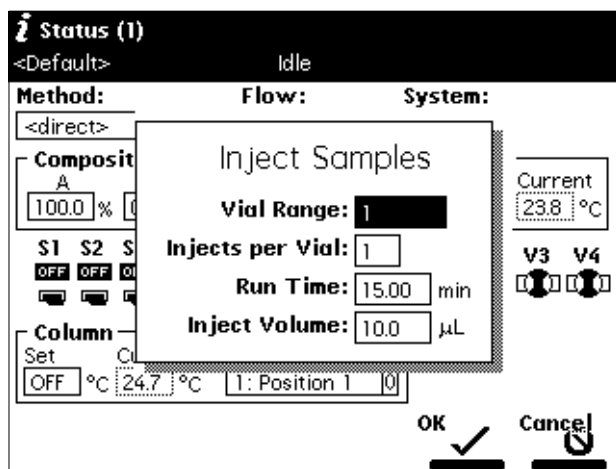

Figure 4-16 Inject Samples Dialog Box
5. Select the **Inject Samples** option, then press **Enter**. The Inject Samples dialog box appears (Figure 4-16).